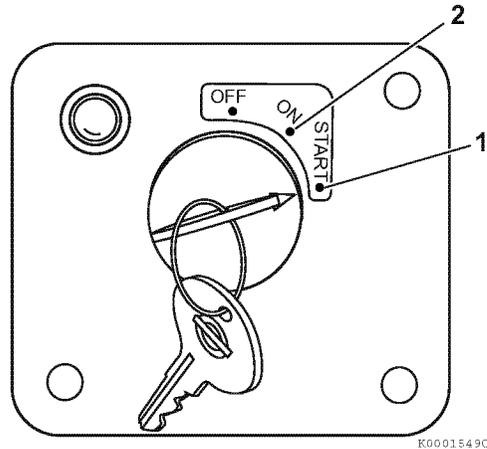

Figure 7
2. Turn the key clockwise to the START position (1, Figure 7). Release the key as soon as the engine starts. It will return to the ON position (2, Figure 7).